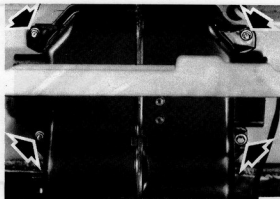

Fig. 12.28. Heater lower casing attachments (arrowed) (Sec. 23)
- 4 Remove the three nuts and the self-tapping bolt securing the heater lower casing (Fig. 12.28) and remove the casing.